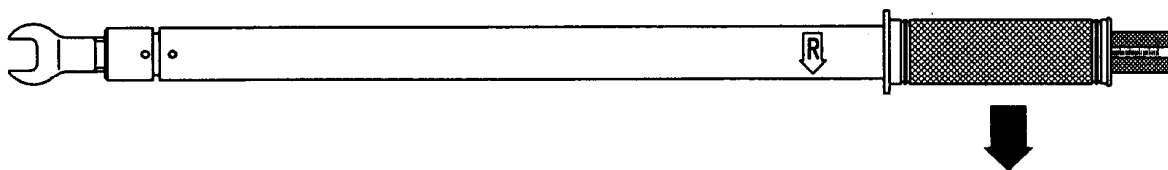

Fig. 202 Torque stick UMO 20 using
- (1) Set in torque stick appropriate wrench or attachment by type of tightening bolt. Lock by the peg hexagon No.4. The wrench is setting as follows in sight anteriorly on tightening component shall be visible arrow on the body of the stick **R** (see fig 202).